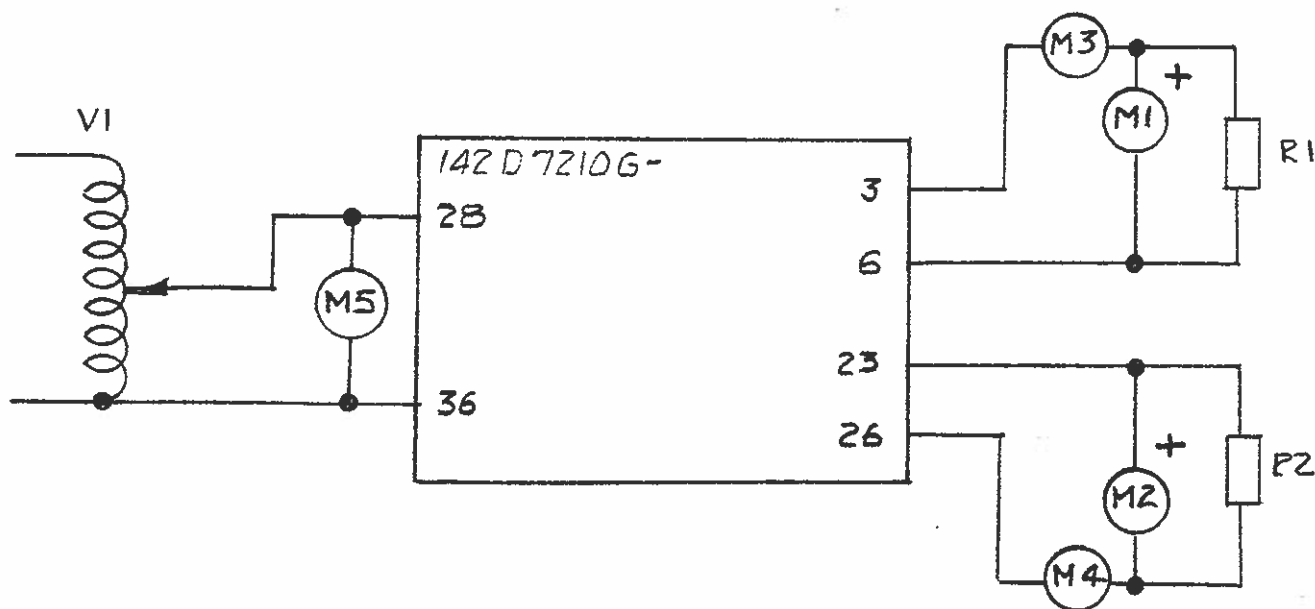

FIGURE 1b TEST CONNECTIONS
9. Connect the circuit board as per Figure 1b.
8. Connect the circuit board as per Figure 1b.
8. Connect the circuit board per Figure 1b.
8. Connect circuit board as per Figure 1b.